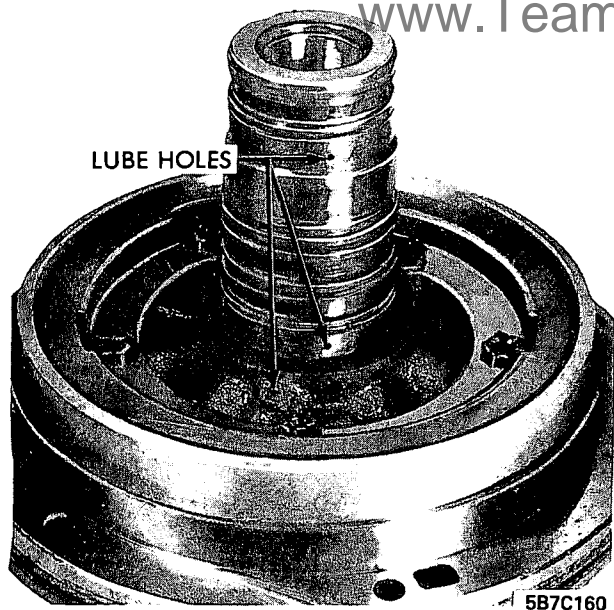

Figure 7C-95
10. Install three (3) direct clutch to pump hub hook type oil seal rings. Inspect two (2) forward clutch to pump hub teflon oil seal rings, for service if rings require replacement use hook type cast iron rings. See Figure 7C-80.
11. Check three (3) pump cover hub lube holes. Make certain they are not restricted. See Figure 7C-95.